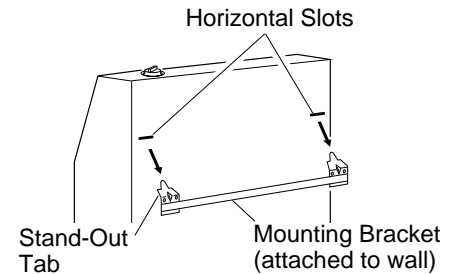

Figure 10 - Mounting Heater Onto Mounting Bracket
1. Locate two horizontal slots on back panel of heater (see Figure 10).